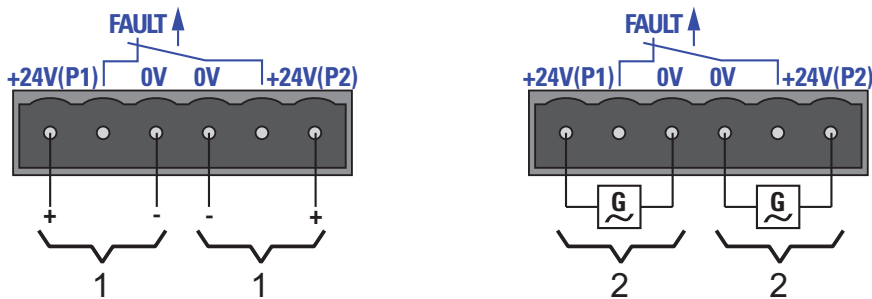

Figure 16: Connecting the supply voltage at the 6-pin terminal block
You can choose between DC or AC voltage when connecting the supply voltage. You use the +24V and 0V pins to connect the AC voltage (see fig. 16).
- ▶ The signal contact (“FAULT”, for pin assignment of terminal block, see fig. 16) monitors the functioning of the device, thus enabling remote diagnostics. You can specify the type of function monitoring in the Management.